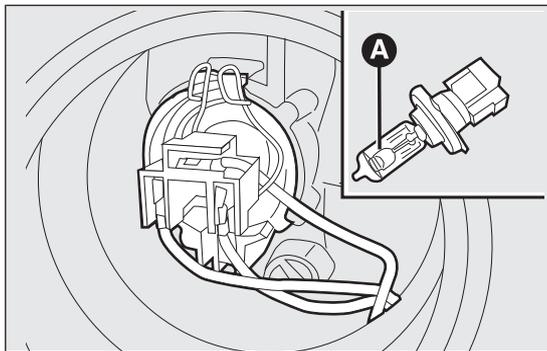

fig. 136
- remove the bulb A fig. 136 from connector B and replace it;